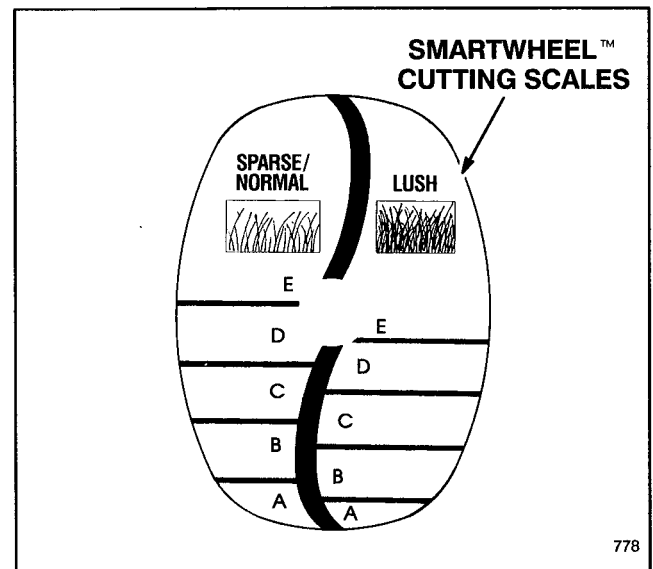

Figure 10
**1.** Before starting the engine and beginning to mow, push the mower into the grass. Stop when the words SPARSE/NORMAL and LUSH are upright on the SmartWheel design on the rear left wheel (Fig. 10).
**2.** Using the color coded SmartWheel design (Fig. 10), compare the tips of the grass blades to the colors/letters on the wheel. Whichever color/letter the tips of the grass blades correspond with is the proper cutting height.